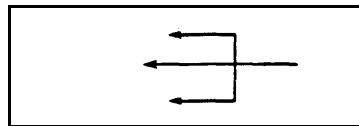

Figure 1-11. Bypass-Easy Symbol
a. Bypass Easy (*Figure 1-11*). This symbol shows that the obstacle can be crossed within the immediate vicinity by a United States (US) 2 1/2-ton truck or a North Atlantic Treaty Organization (NATO) equivalent. When using this bypass, no work will be required. The symbol is placed on the leader pointing to the geographical location of the object (bridge or tunnel).